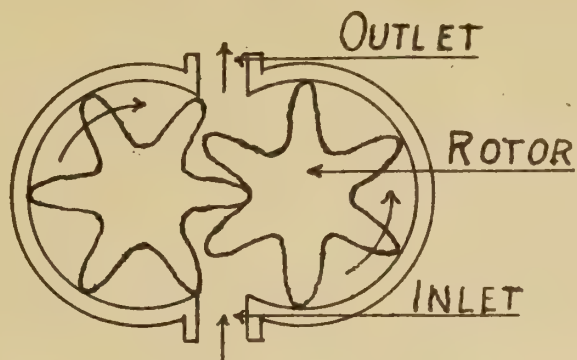

FIGURE 6
Rotary pumps consist of two gears running together. Water is carried between the teeth on the outside of each gear but cannot return between them because of the meshing of the teeth. A rotary pump is illustrated in figure 6. Pumps of this type are not now as common on farm water systems as they were a few years ago, but they are still supplied by a few manufacturers. They are more frequently used in pumping from cisterns than from wells. The popularity of these pumps has decreased for two reasons--(1) a little wear on the rotors or housing reduces their pumping ability considerably, and (2) inexpert taking apart and putting together may cause them to stop working, since the plate covering the face of the rotors must fit closely enough to prevent water from leaking between it and the rotors but still must not bind against the rotors. These pumps are most likely to be found on the cheaper systems and can give good service on relatively low water suction lifts when used by farmers who understand the close adjustment necessary when for any reason the cover plate is removed and replaced.